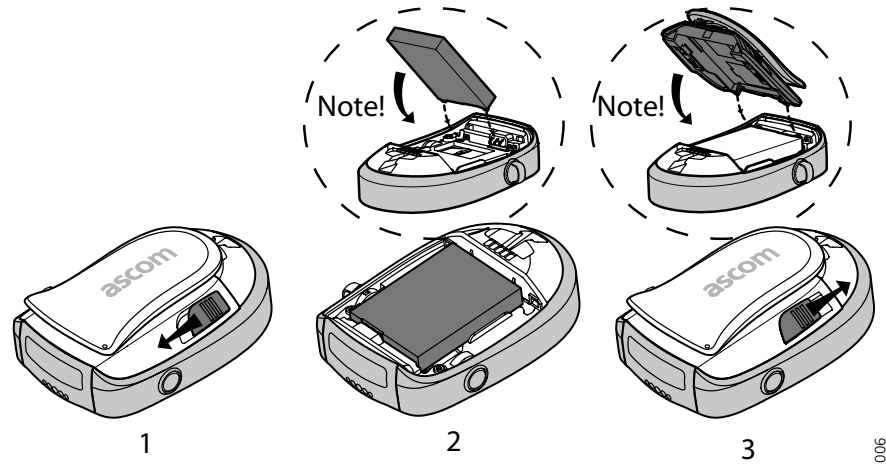

Figure 6. Battery replacement.
Open the battery lid: Pull the plates upwards to release the battery lid, see (1) in figure 6 below. Put the battery into the battery compartment (2). Put on the battery lid and close it by pulling the plates downwards (3).